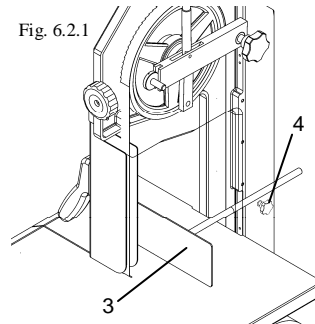

Fig. 6.2.1
6.2 - Preliminary settings (fig. 6.2.1)